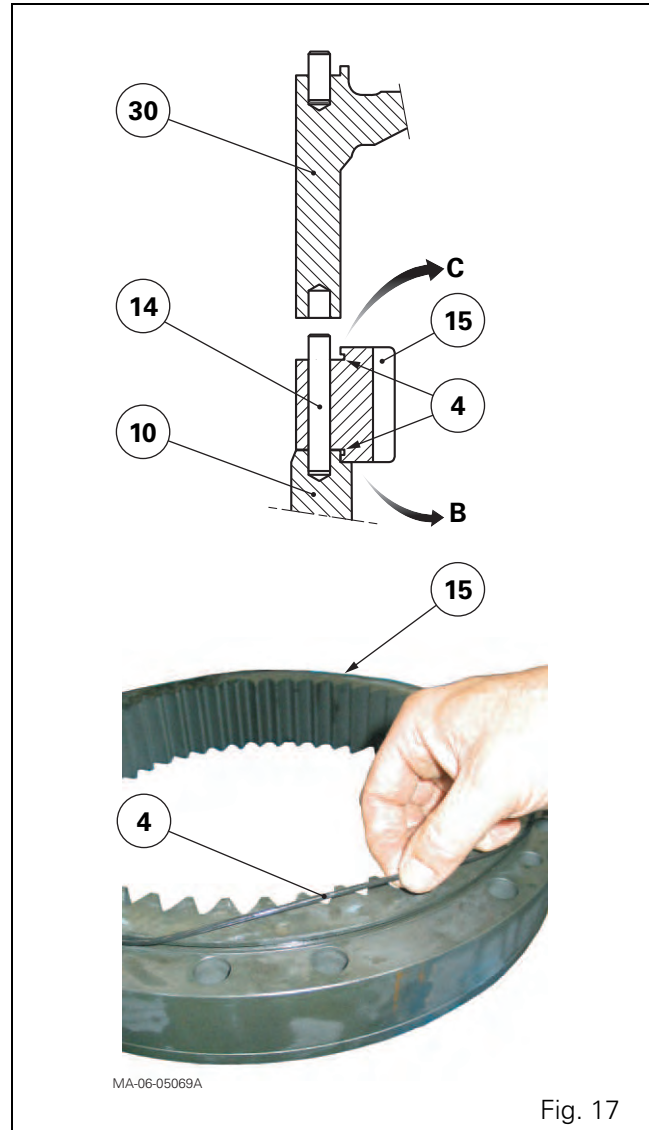

Fig. 17
42. Check that the pin (14) is present (Fig. 17).
43. Fit a new "O" ring (4) into each B and C angle of the ring gear (15) (Fig. 17). Refit the ring gear.
- the planet carrier (25) (see § G);
- the sun gear (29).
- the spacer (30);
- the hub (32);
- the snap ring (33).
47. Screw in the screws (40). Tighten to a torque of 100-130 Nm.